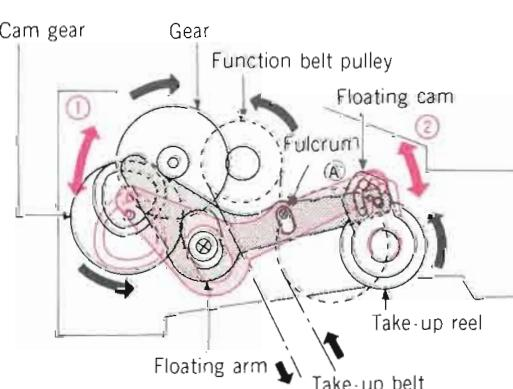
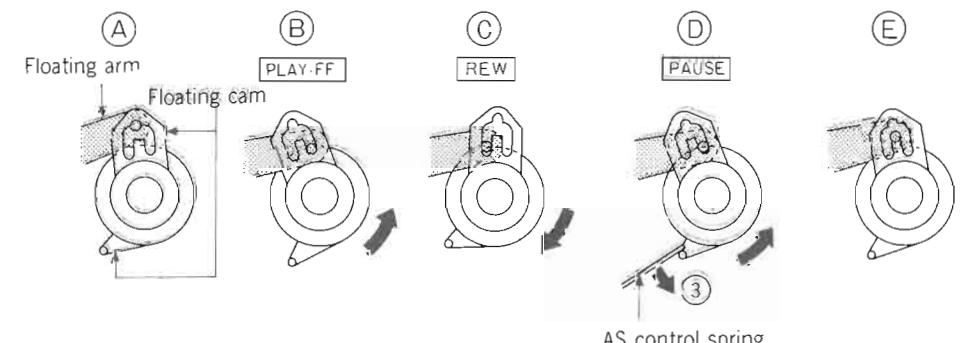
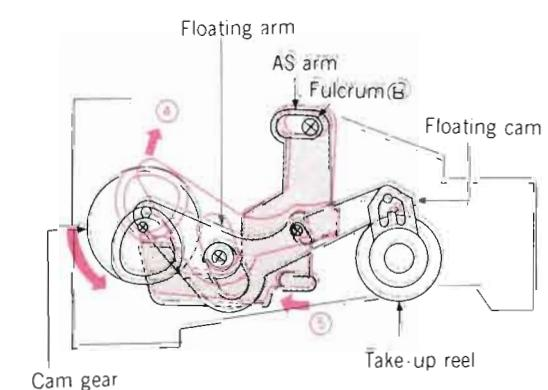

Figure 15
Figure 16
Figure 17
- Figure 15 shows the tape-end detector for the auto-stop mechanism.
The Floating cam is provided on the same axis as the Take-up reel shaft, and it lightly touches the reel (by action of a spring). Utilizing the fact that when the Reel rotates, the floating cam faces in the direction of rotation, the floating movement of the Cam Gear and the Floating arm (which has its fulcrum at (A) as shown in Figure 15) this movement is applied to this floating cam, to detect the end of the tape.
Shafts, which enter into the Cam of the Cam Gear and the shaft which in turn enters into the slide groove of the Floating cam, are provided at both ends of the Floating cam; the floating movement is carried out in the direction of arrow ① with its fulcrum at (A) as shown in Figure 15, by means of the rotation of the Cam Gear.
The shaft of the Floating Arm, which enters into the groove on the Floating Cam, operates to slide and relieve the floating movement which is caused by the Cam Gear by means of this groove. When the Cam of the Cam Gear rotates to the position shown in color in Figure 15, the shaft of the Floating Arm on the Floating Cam side goes into the mode shown in (A) of Figure 16. Next, when the Cam Gear rotates to the position shown in black, the position of the shaft on the floating cam side goes into the mode shown in (B) of Figure 16, during playback or fast forward, and (C) during rewind. These slide grooves are determined by the direction of rotation of the reel.
Incidentally, during Pause, since the reel is stopped, the auto-stop mechanism starts to operate. To prevent this, the Floating Cam is pressed in the direction of arrow ③ (take-up direction) by the auto-stop control spring as shown in (D) of Figure 16, during Pause and Stop. [The AS (auto-stop) control spring is operated by the sliding of the Brake Plate; it is so designed that the AS control spring is released from one end of the Floating Cam and the Floating Cam faces in the direction of rotation of the reel, except during the Pause and Stop modes.] When the tape is finished and the reel stops, the Floating Cam side shaft of the Floating Arm slides between (A) and (E) in Figure 16. The width in which it slides is smaller than that between (A) and (B) or (A) and (C). When the Floating Arm slides up to point (E) in Figure 16, the Floating Arm slides in the direction of arrow ④ in Figure 17 with the Floating Cam as the fulcrum. The tape-end is detected by means of this sliding of the Floating Arm.
- When the tape-end is detected and the Floating Arm slides, the AS Arm (as shown in Figure 17) slides in the direction of arrow ⑤ with its fulcrum at (B).